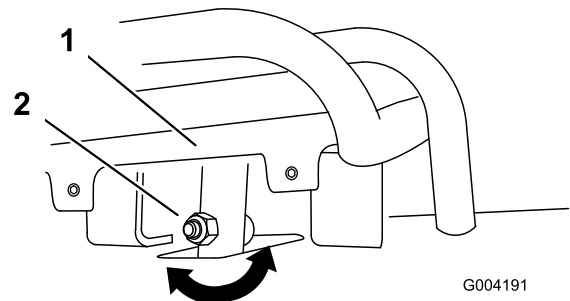
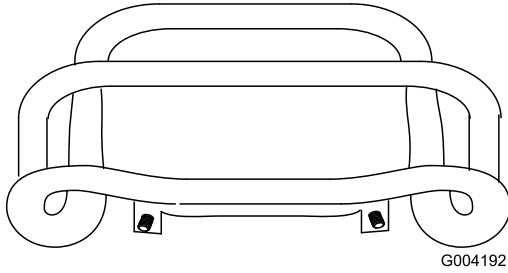

Figure 51
Figure 52
4. If the front of the traction control does not rest square and flush with the reference bar, loosen the flange nut and bolt in the stem of the traction control (Figure 51).
- Adjust the traction control so that it rests flush against the reference bar when it is pulled straight back (Figure 51 and Figure 52).